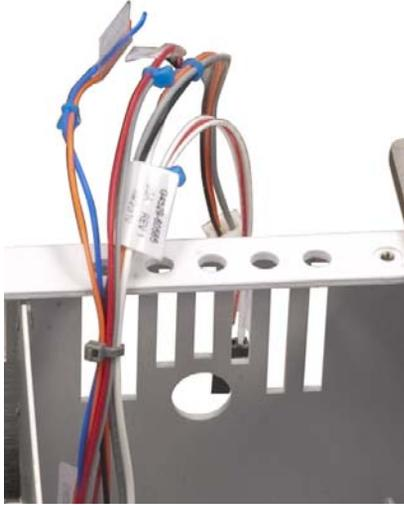

Figure 32 Laying the cables outside of the main frame chassis
- 9 Lay the Peltier power control board cables located near the back of the board outside of the main frame chassis, as shown in Figure 32.